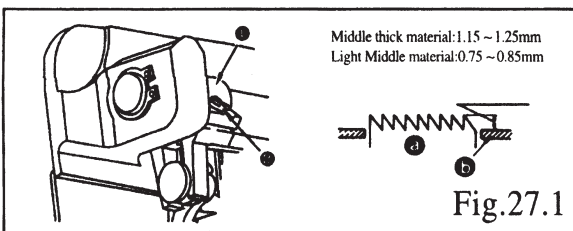

Fig.27.1
22.1.HEIGHT OF THE FEED DOG (FIG.27.1)(ROUND KNIFE)